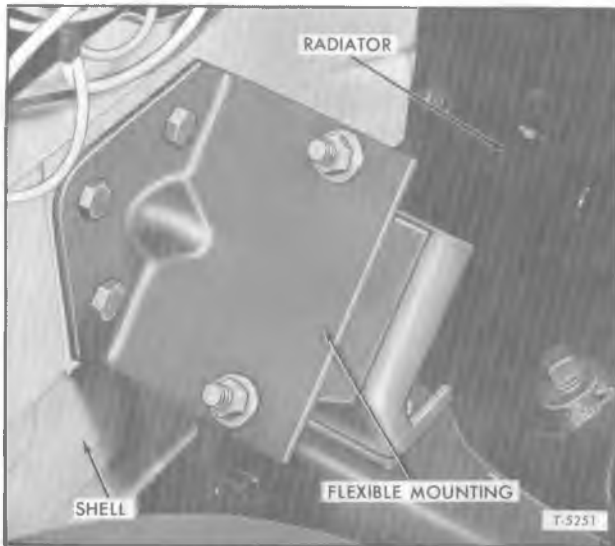

Figure 3—Radiator Shell Flexible Mounting
6. Remove bolts and washers which attach each side of shell mounting bracket to flexible mounting (fig. 3).